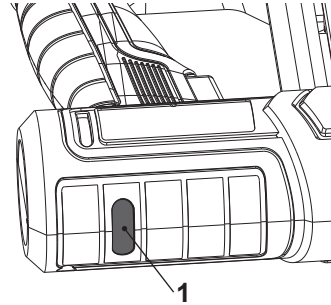

Fig. 5
- Charging: The charge indicator (1) turns red (Fig. 5).
- Fully charged: The charge indicator (1) turns green.
5. Remove the USB charger cable (17) from the product. The product is now ready for use.